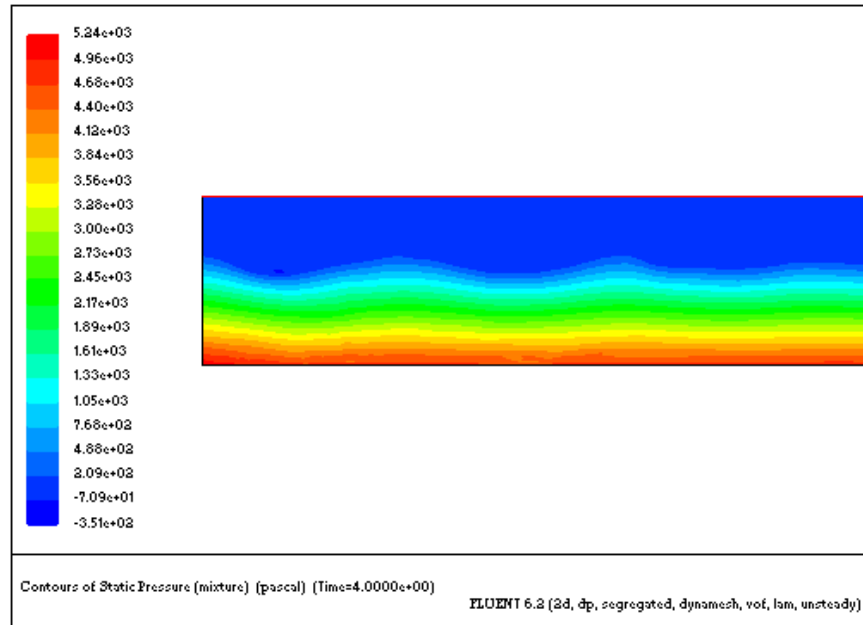

Figure 10.8: Contours of Static Pressure
1. Display filled contours of static pressure (Figure 10.8).